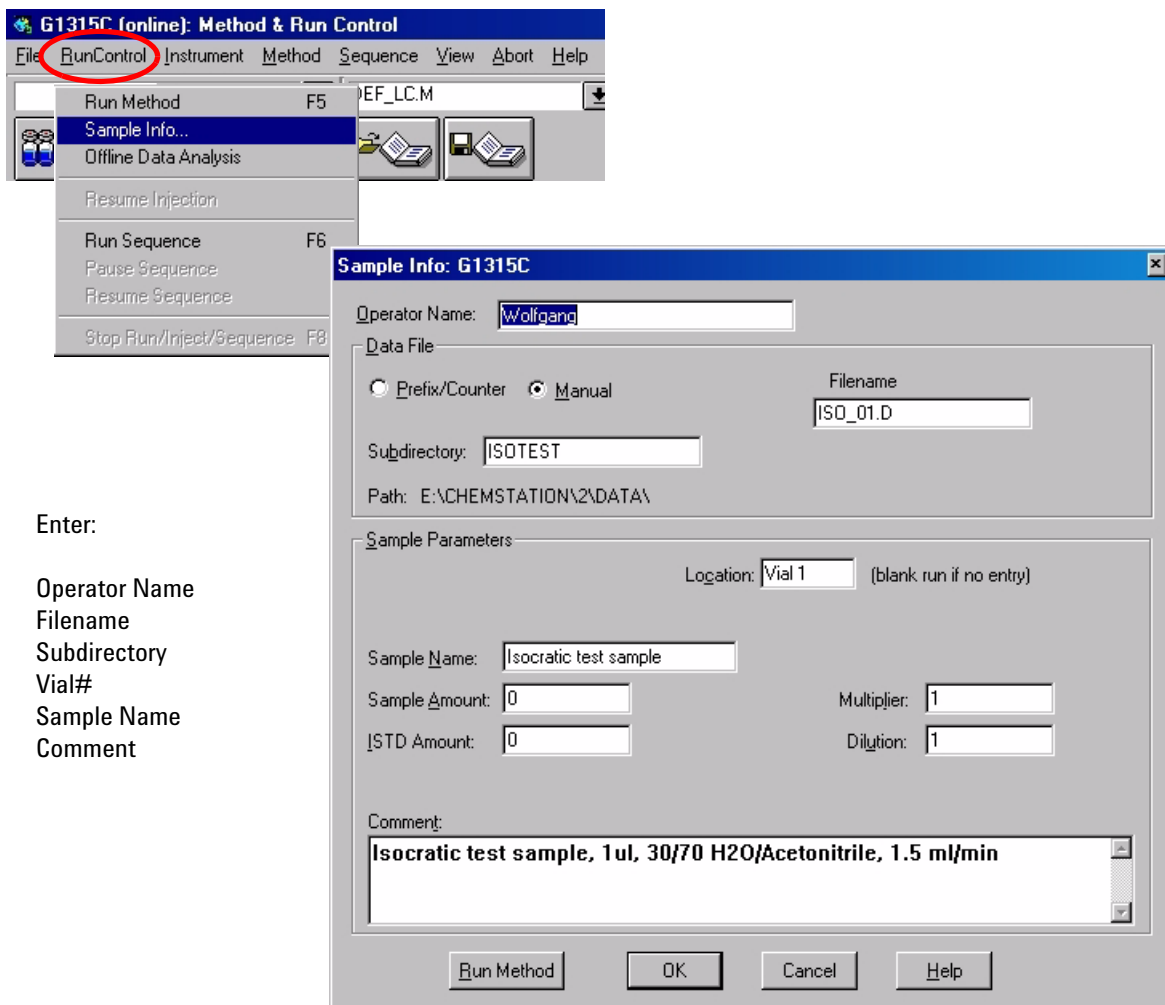

Figure 40 Sample Information
- 14 Select the menu item *RunControl* -> *Sample Info* and enter information about this application (Figure 40 on page 71). Press *OK* to leave this screen.